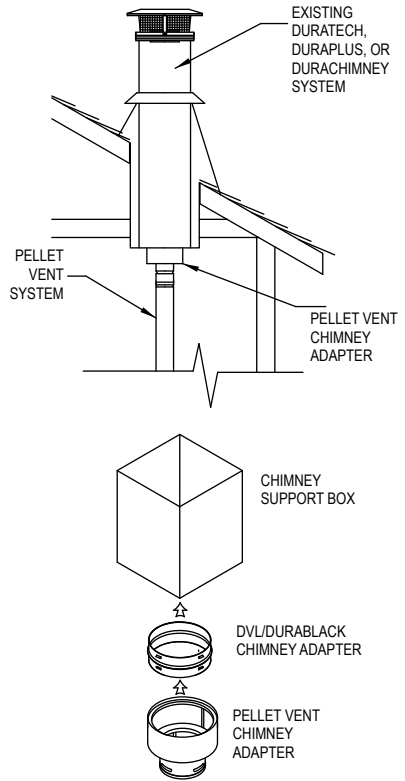

Figure 7
6. If it is desired to attach to an existing 6", 7" or 8" DuraTech, DuraPlus or DuraChimney chimney, either roof supported, or ceiling supported: (**Figure 7**).
C. Install a DVL/DuraBlack Chimney Adapter - product stock numbers (6") 8674, (7") 8774, or (8") 8874 - in the existing ceiling support box, as shown in **Figure 7**. Note that the DVL/DuraBlack Chimney Adapter only connects to DuraVent chimney systems.
aligned, carefully drill three 1/8" diameter holes through the outer sleeve only in the center of the slots located at the bottom of the Adjustable Length pipe. Do not penetrate the inner liner. Use (3) 3/8" length sheet metal screws to secure the Adjustable Length pipe. The completed installation will look like **Figure 7**.